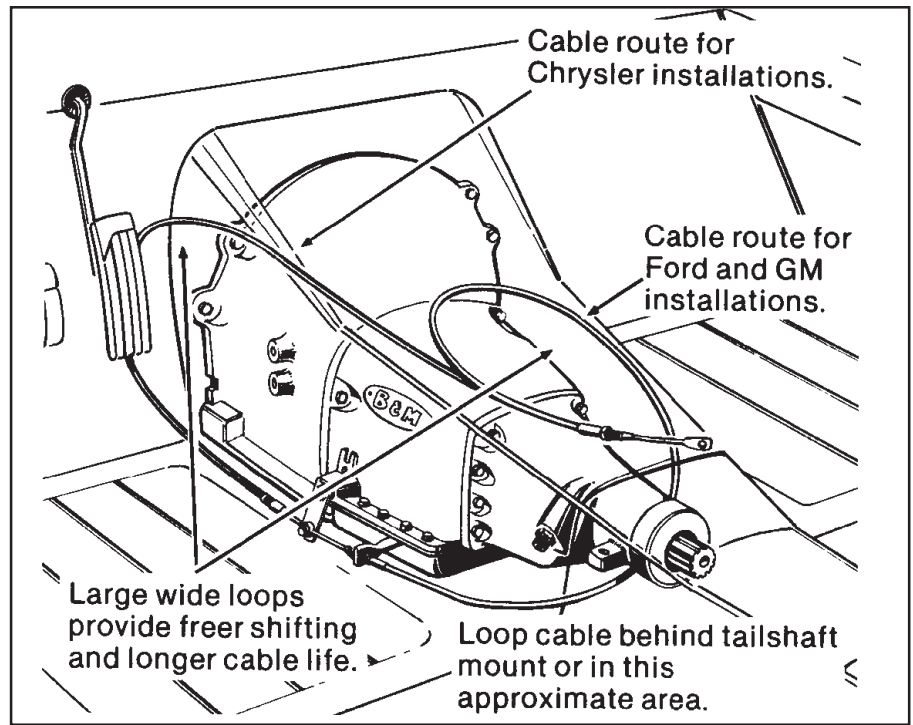

Figure 2
STEP 7. Install the shifter mechanism into the vehicle. Slide the shifter cable through the carpet and the hole in the floor. Bolt the shifter down using four 1/4" hex bolts and nuts. If required use 1/4" washers as shims between the shifter mechanism and the floor to level the shifter. **ROUTE THE CABLE AS SHOWN IN FIGURE 2, AVOID SHARP BENDS WHICH WILL KINK AND DAMAGE THE CABLE.** Use cable clamps or tie wraps to secure the cable housing to the chassis to avoid contact with hot engine or exhaust system. Seal the cable hole shut to avoid the entry of exhaust fumes or water. For General Motors vehicles go to **Step 8**, for Ford vehicles go to **Step 13**, for Chrysler vehicles go to **Step 19**.
STEP 16. Remove the two rubber boots, one large nut, and a large lockwasher from the threaded end of the shifter cable. Route the shifter cable according to Figure 2. Avoid sharp bends and route the cable away from hot engine exhaust
STEP 21. Remove the two rubber boots, one large nut, and a large lockwasher from the threaded end of the shifter cable. Route the shifter cable according to **Figure 2**. Avoid sharp bends and route the cable away from hot engine and exhaust parts. The cable may be secured up out of the way with nylon cable ties. Slide the end of the cable into the cable bracket, install the lockwasher and the large nut over the end of the cable. Position the cable so the threaded portion of the cable housing is centered in the cable bracket. Tighten both large nuts to hold the cable in this position. Install the two rubber boots onto the end of the cable.